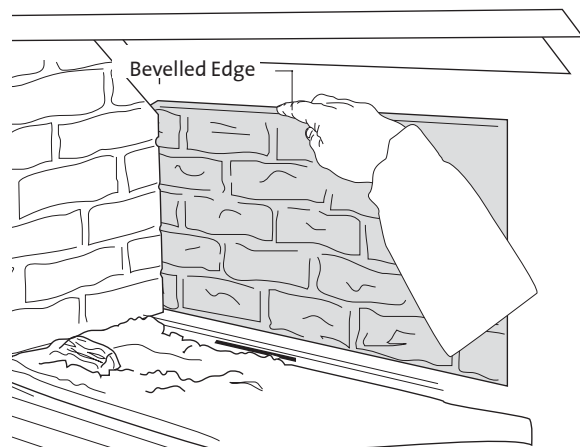

Figure 38. Install Lower Rear Panel.
- 4. Install the Lower Rear Panel.** Orient the panel so that the beveled edge is on top and the mortar joints align with those on the side panels. Engage the bottom edge between the rear wall and the base. Press the panel snugly between the two side panels. See Fig.38.